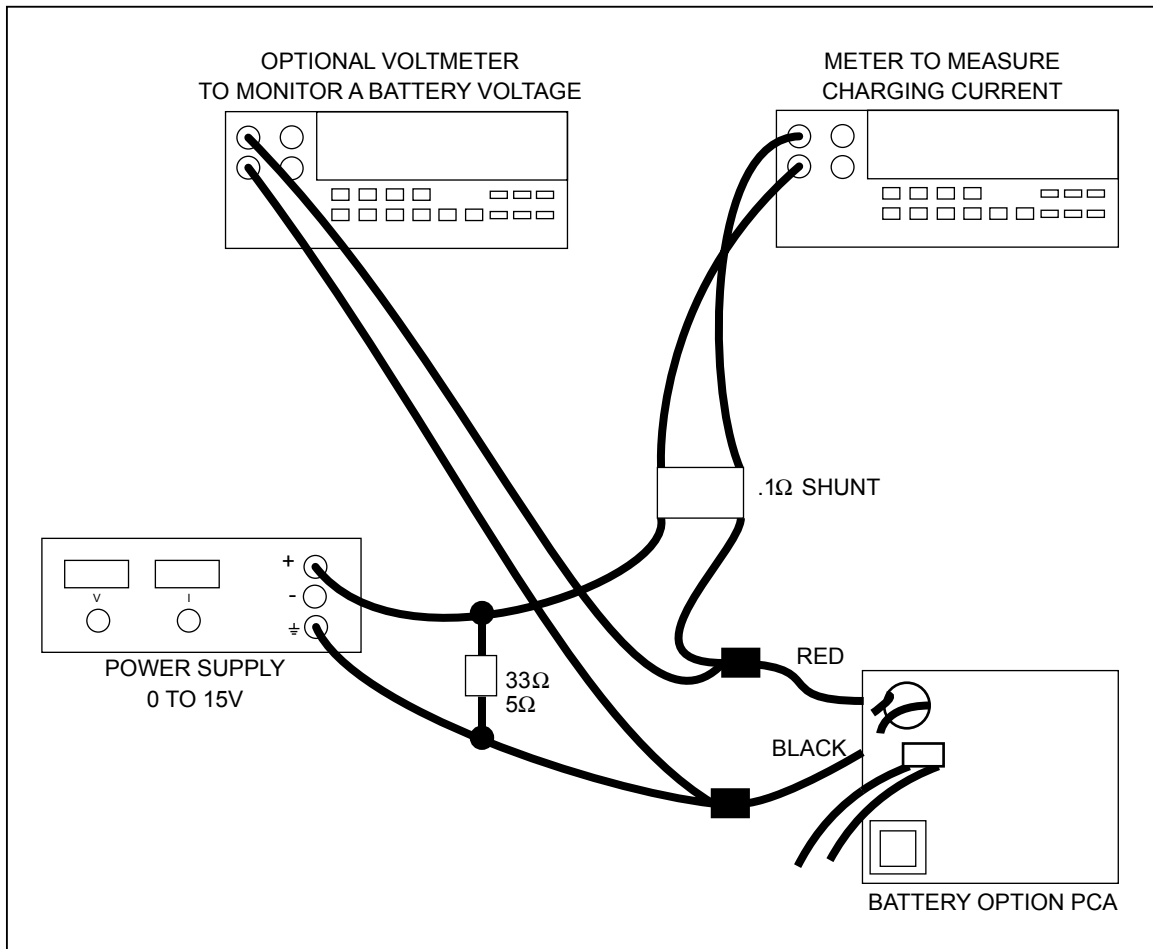

Figure 7-5. Cycle/Float Charge Rate Switch Test
2. For this procedure, use a battery simulator as a substitute for the regular battery pack. Connect this simulator (shown in Figure 7-5) as follows: